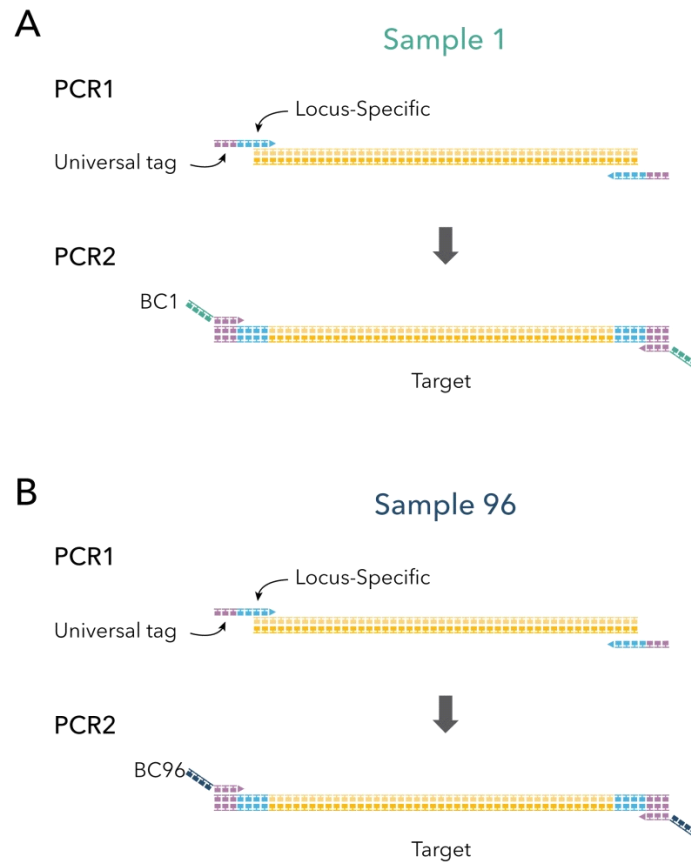

Figure 6 Barcoding using Barcoded Universal Primer
2. Barcoded Universal Primers (highly recommended; Figure 6)
The Barcoded Universal Primer approach allows for more flexibility in primer design, modification and optimization. In this method, the barcode is incorporated into the PCR amplicon via a two-step tailed PCR approach. As shown in Figure 6, internal primers that are a combination of universal and target-specific sequences are used for PCR1. The universal sequences are incorporated into the PCR amplicon after the first amplification step. In the second round of PCR (PCR2), the barcoded universal primers (supplied by PacBio) are used for the amplification in order to incorporate the barcodes.